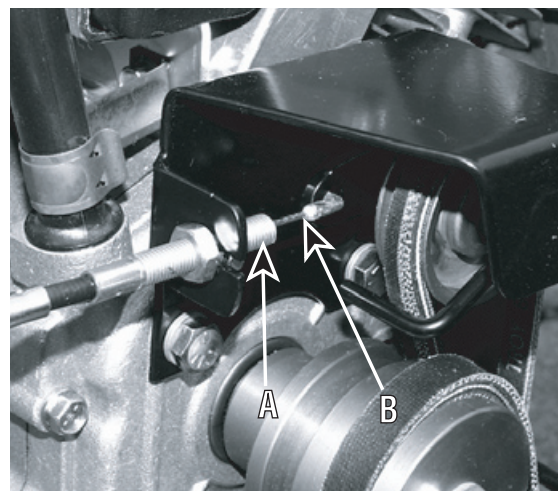

Figure 5-5: Measure cable wire length to check for correct reverse belt tension..
3. Have an assistant pull the Reverse Clutch Control knob all the way out and hold it in that position. Measure the length of the cable wire between the end of the threaded cable adjuster (A, Figure 5-5) and the end of the Z-fitting (B) to which the cable wire is attached.